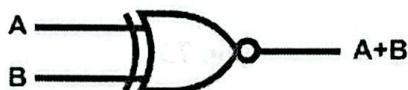

Fig. 8.1
4. Wire the circuit according to the diagram in figure 8.1 by consulting OR gate IC's data sheet in fig 8.2.